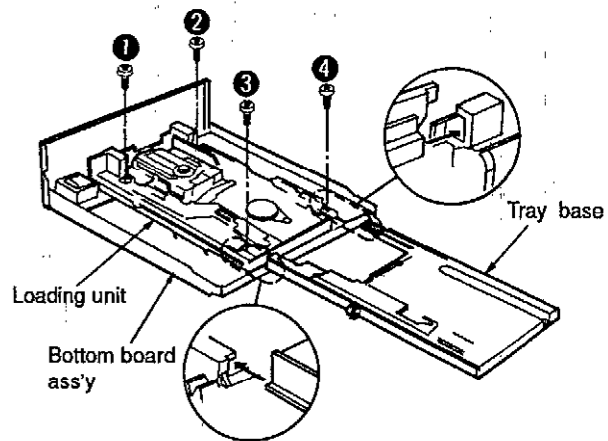

Fig.1
1. Install the loading unit on the bottom board ass'y and secure it with 4 screw (1~4). (See Fig. 1.)
2. Install the tray base on the loading unit. (See Fig. 1)